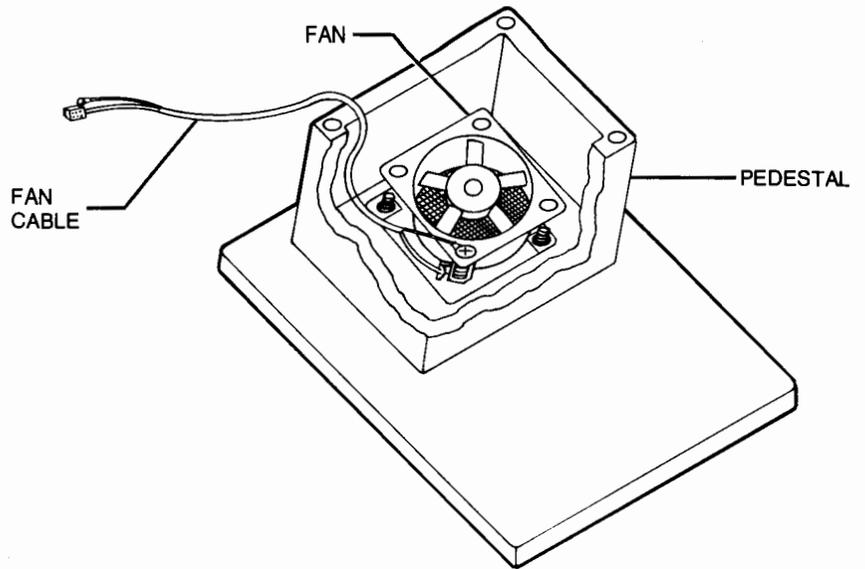

Figure 7-5. Fan Removal (2621P)
4. Remove the two screws and washers securing fan to pedestal cavity (figure 7-5) and remove fan.